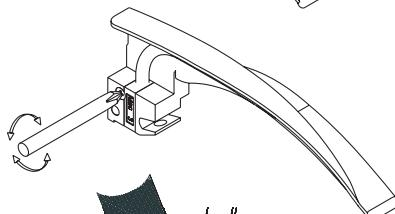

Fig 5
5. To remove the light guide, first remove screw A, to allow removal of lever B as shown in Fig 5. The blade levering mechanism may require articulation, before the light guide can be detached from the blade.